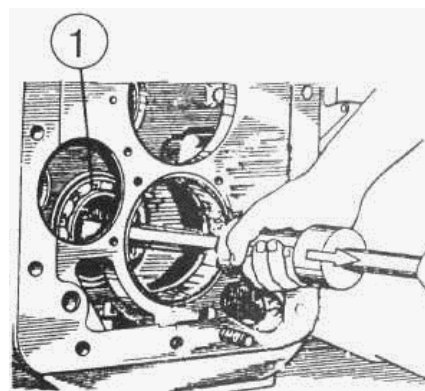

Figure 4.94 Disassembly of control mechanism of range 3 - 4
a) press out bearing 1 (Figure 4.94).